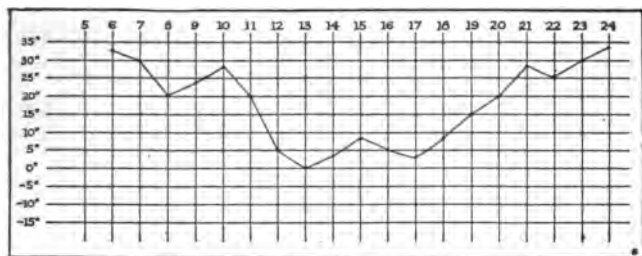

FIG. 163. Mean daily temperature graph at Albion, Michigan, from December 6 to December 24, 1914.
**Exercise 4.** Construct a graphic chart of your observations similar to Figure 163. Take the average of three observations of the thermometer at 7 A.M., 2 P.M., and 9 P.M., as the mean daily temperature. Make a mark on the chart for each day, showing the mean daily temperature for that
Be sure that you are able to read the thermograph. From Figure 163 determine what was the mean temperature for December 12. What was it for December 9? When was the highest temperature reached and what was the mean temperature at that date? When did the lowest temperature occur? Notice that the temperature must have been considerably lower than zero at some time in the day in order to give an average of zero.